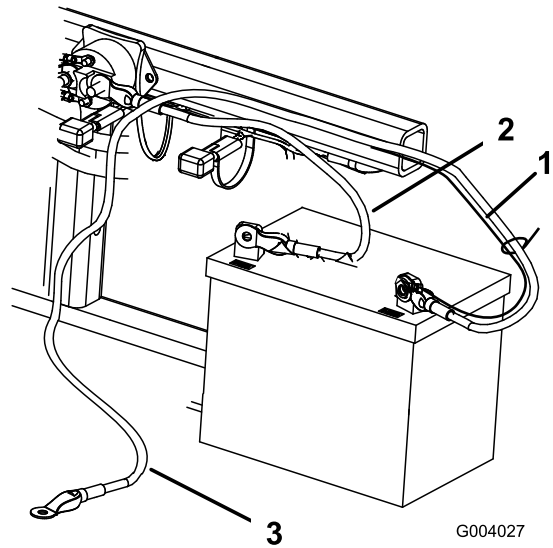

Figure 5
- Secure the positive cable (red) to the positive (+) terminal with a 1/4-20 x 5/8 inch bolt and locknut (Figure 5).
3. Secure the small black wire and the negative cable (black) to the negative (-) terminal of the battery with a bolt (1/4 x 5/8 inch) and locknut (1/4 inch) (Figure 5).